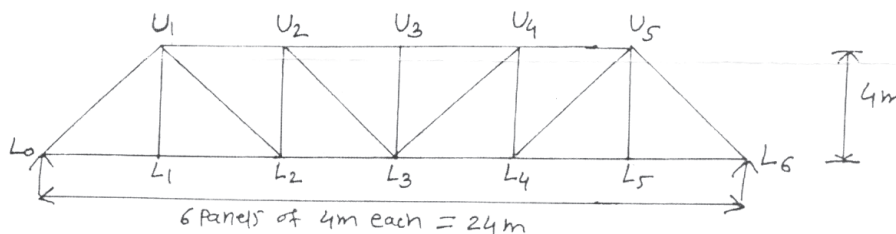

Fig. 2
- b)** Draw the influence line diagrams for forces in the member  $U_2L_3$ ,  $U_2U_3$  and  $L_2L_3$  of the through type bridge truss as shown in fig.2. [8]